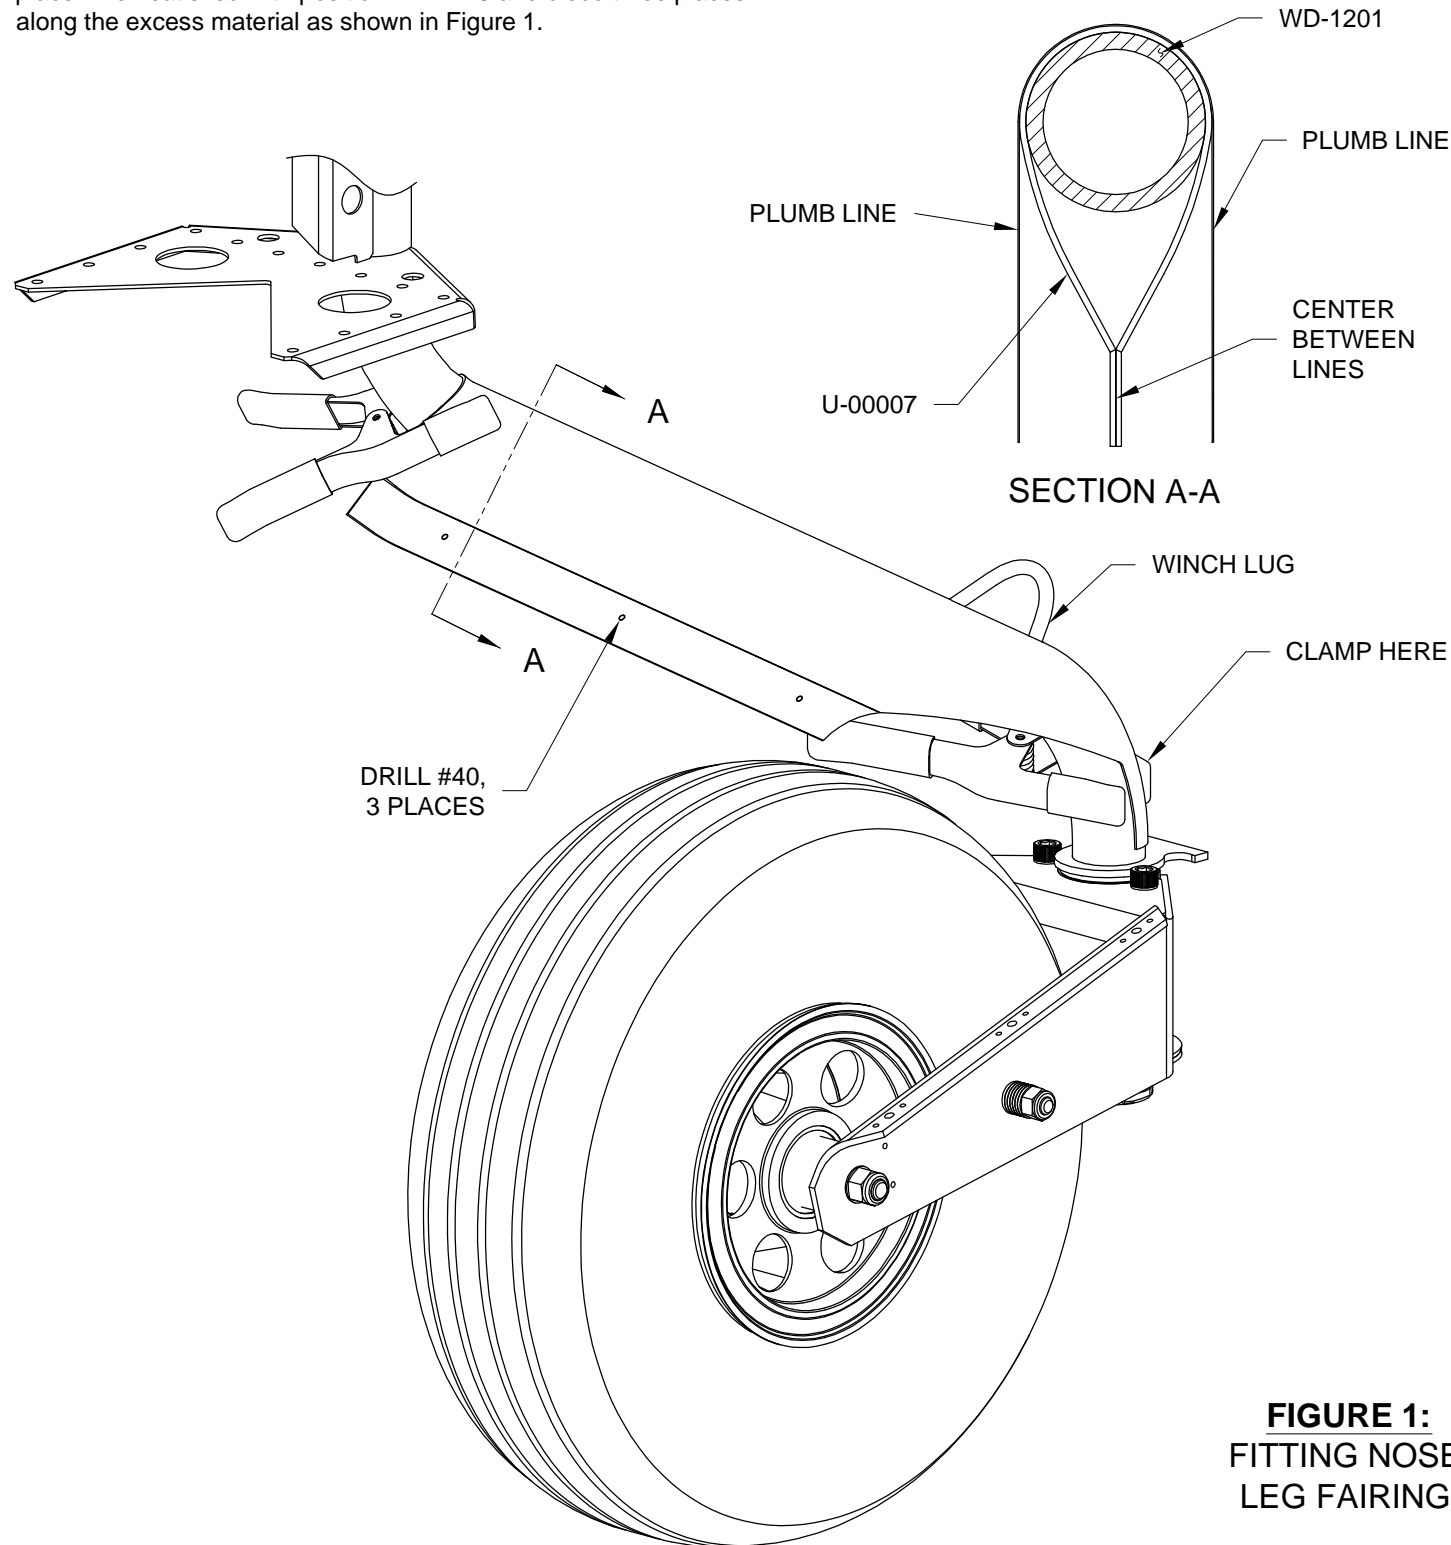

FIGURE 1:
Trim the "tail" of the nose leg fairing as required to clear the tire as shown in Figure 1.
Step 2: Attach plumb lines to the upper portion of the U-00007 Nose Leg Fairing as shown in Figure 1 Section A-A. Align the nose leg fairing so that it is centered between the plumb lines.
Step 3: Clamp the upper portion of the U-00007 Nose Leg Fairing in place when satisfied with position. Drill #40 and cleco three places along the excess material as shown in Figure 1.